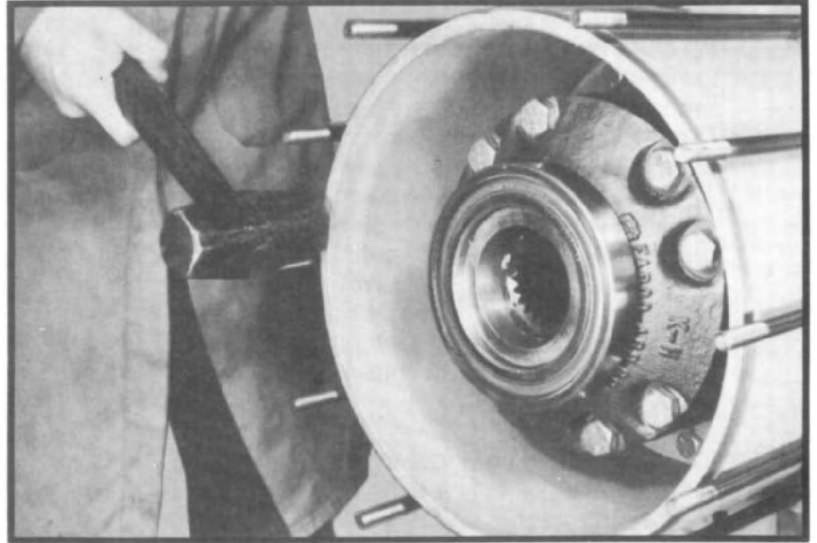

Fig. 133
2.26 Tap differential housing into rear face plate and against o-ring. (See fig. 133.)